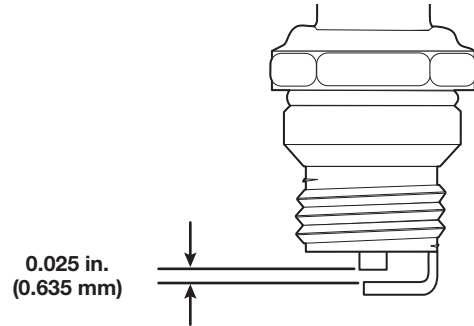

Fig. 22
4. Use a feeler gauge to set the air gap at **0.025 in. (0.635 mm)** (Fig. 22).